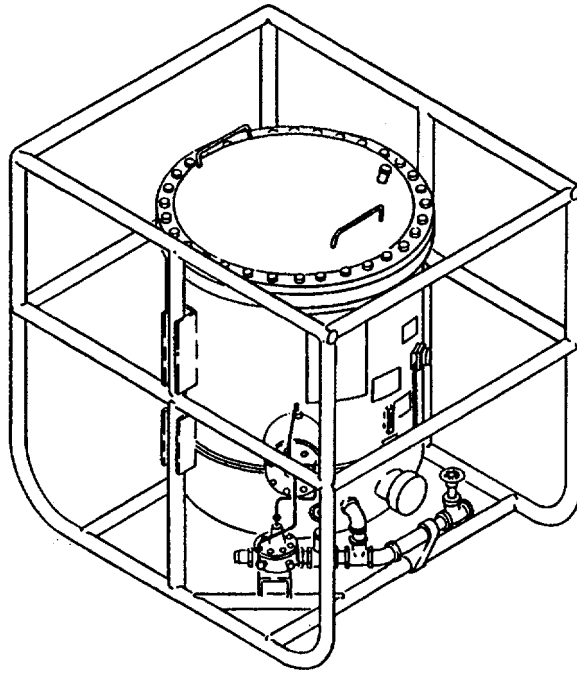

Figure 1-1. Filter/Separator, Liquid Fuel, Frame Mounted 600 GPM Capacity.
a. Type of Manual. This manual provides operator and unit maintenance instructions for Filter/Separator, Liquid Fuel, Frame Mounted, 600 GPM Capacity NSN 4330-00-522-1850 model GFS-30-V-600 (figure 1-1). This manual also provides a Repair Parts and Special Tools List located at Appendix F.